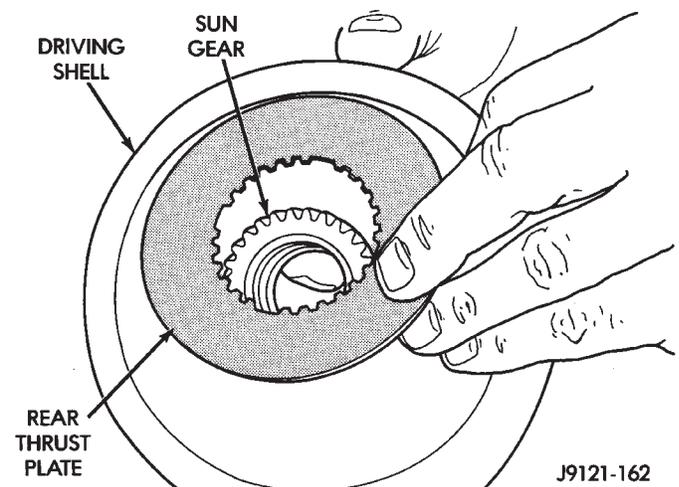

Fig. 197 Installing Driving Shell Rear Thrust Plate
(9) Hold sun gear in place and install thrust plate over sun gear at rear of driving shell (Fig. 197).